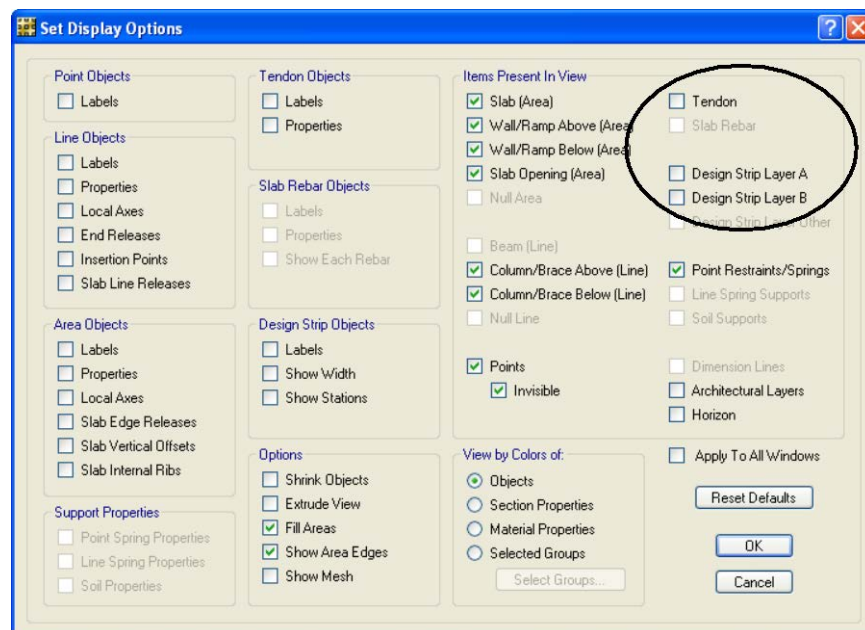

Figure 83 Set Display Options form
- A. Click the **View menu > Set Display Options** command. When the Set Display Options form displays, uncheck the *Tendon*, *Design Strip Layer A* and *Design Strip Layer B* check boxes in the Items Present in View area as shown in Figure 83. This action will turn off the display of the tendons and design strips.